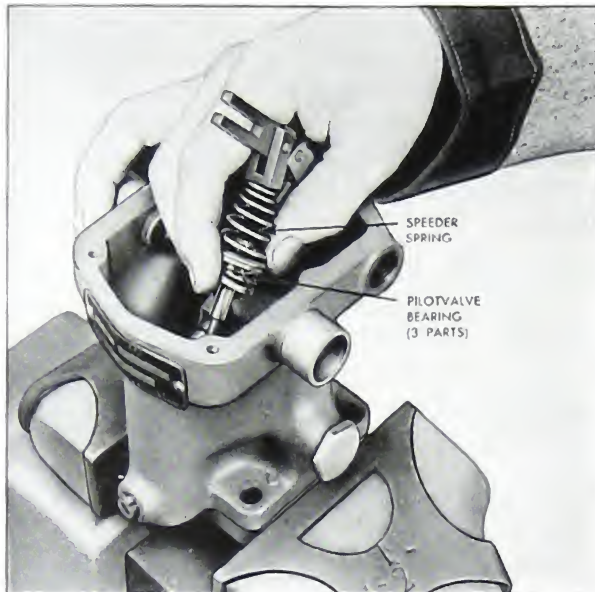

Fig. 5-56. Pilot valve bearings and speeder spring
9. Remove pilot valve, pilot valve bearing, and speed adjusting shaft assemblies from governor as shown in Fig. 5-56.